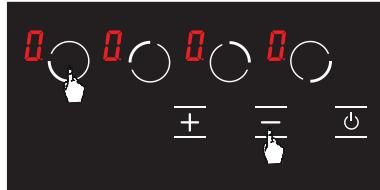

Figure 18
2. Press front left hob selection key () and minus key () simultaneously. (see Fig. 18) You shall hear a short warning signal at this time. Then, remove your fingers from the stove control panel.